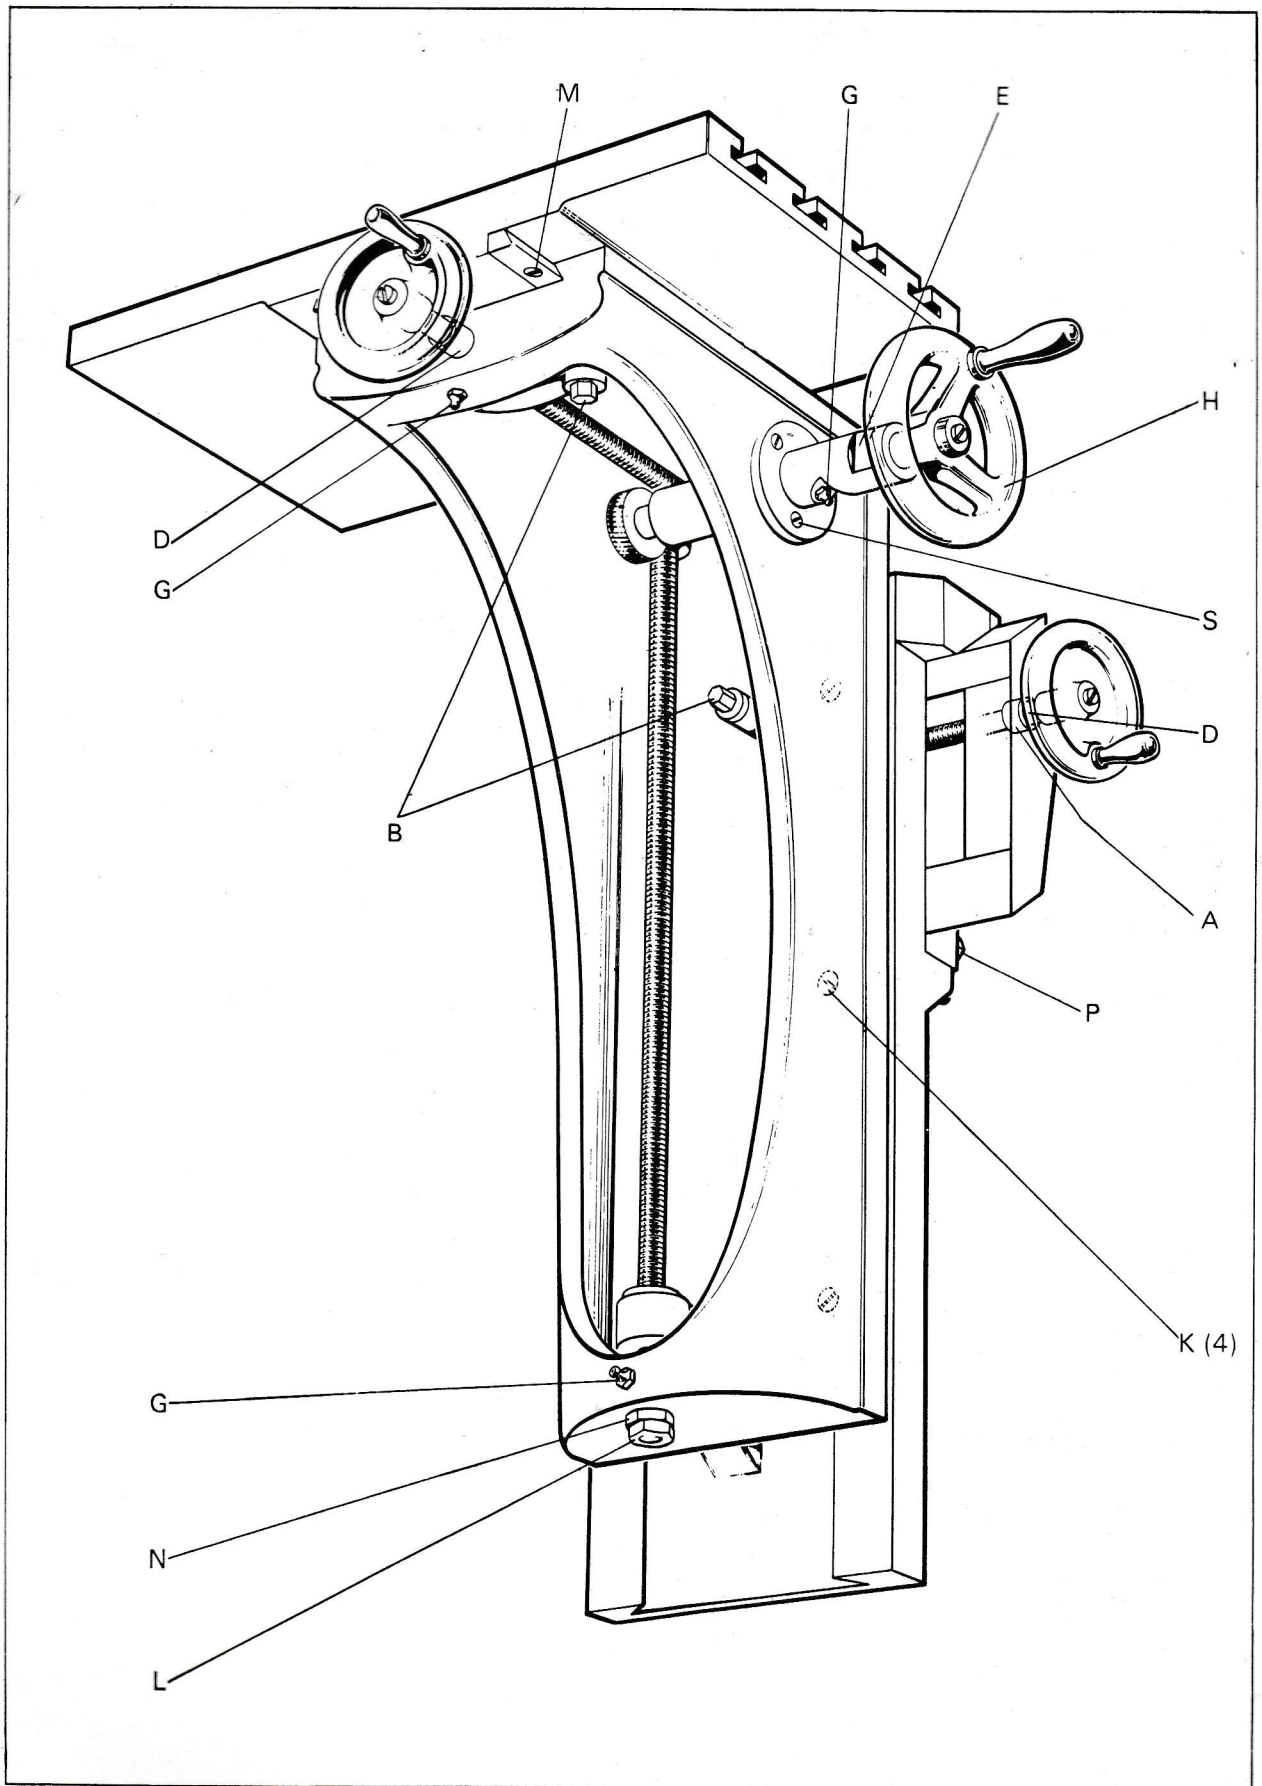

FIG. 9
The worktable incorporates four tee-slots 15 inches long  $\times \frac{3}{8}$  inch wide (380  $\times$  9,5 mm). Table dogs and bolts are provided for clamping workpieces or work-holding fixtures. When setting up for repetition work, all worktable movements should be locked to prevent accidental disturbance; the slide locking screws are shown at B in Fig. 9. Table fences can be built up around the workpiece for easy location of subsequent parts. The table fence provided is designed for clamping in the tee-slots and provides a face parallel with the longitudinal movement of the worktable.
**Weekly:** Lubricate all slideways, lead screws and gears with medium grade machine oil, working the oil into the lead screw nuts and gears. Apply a little oil to all the needle bearing joints of the pantograph (beneath the screws (Z) Fig. 3) and the frame screw bearing (A) Fig. 9. A thin film of oil applied to the machined sections of the pantograph bars will prevent corrosion and give easy setting of reductions. Lubricate at the three grease nipples (G) Fig. 9 and the nipple in the rear drive arm upper cone bearing; the cone spindle has an axial hole to permit grease to pass to the lower cone as well as to the upper cone. The countershaft pulley is fitted with ball bearings packed with grease and requires no attention.
## ADJUSTMENT OF SLIDES (FIG. 9)
## CORRECTING SLIDE SCREW END PLAY (FIG. 9)